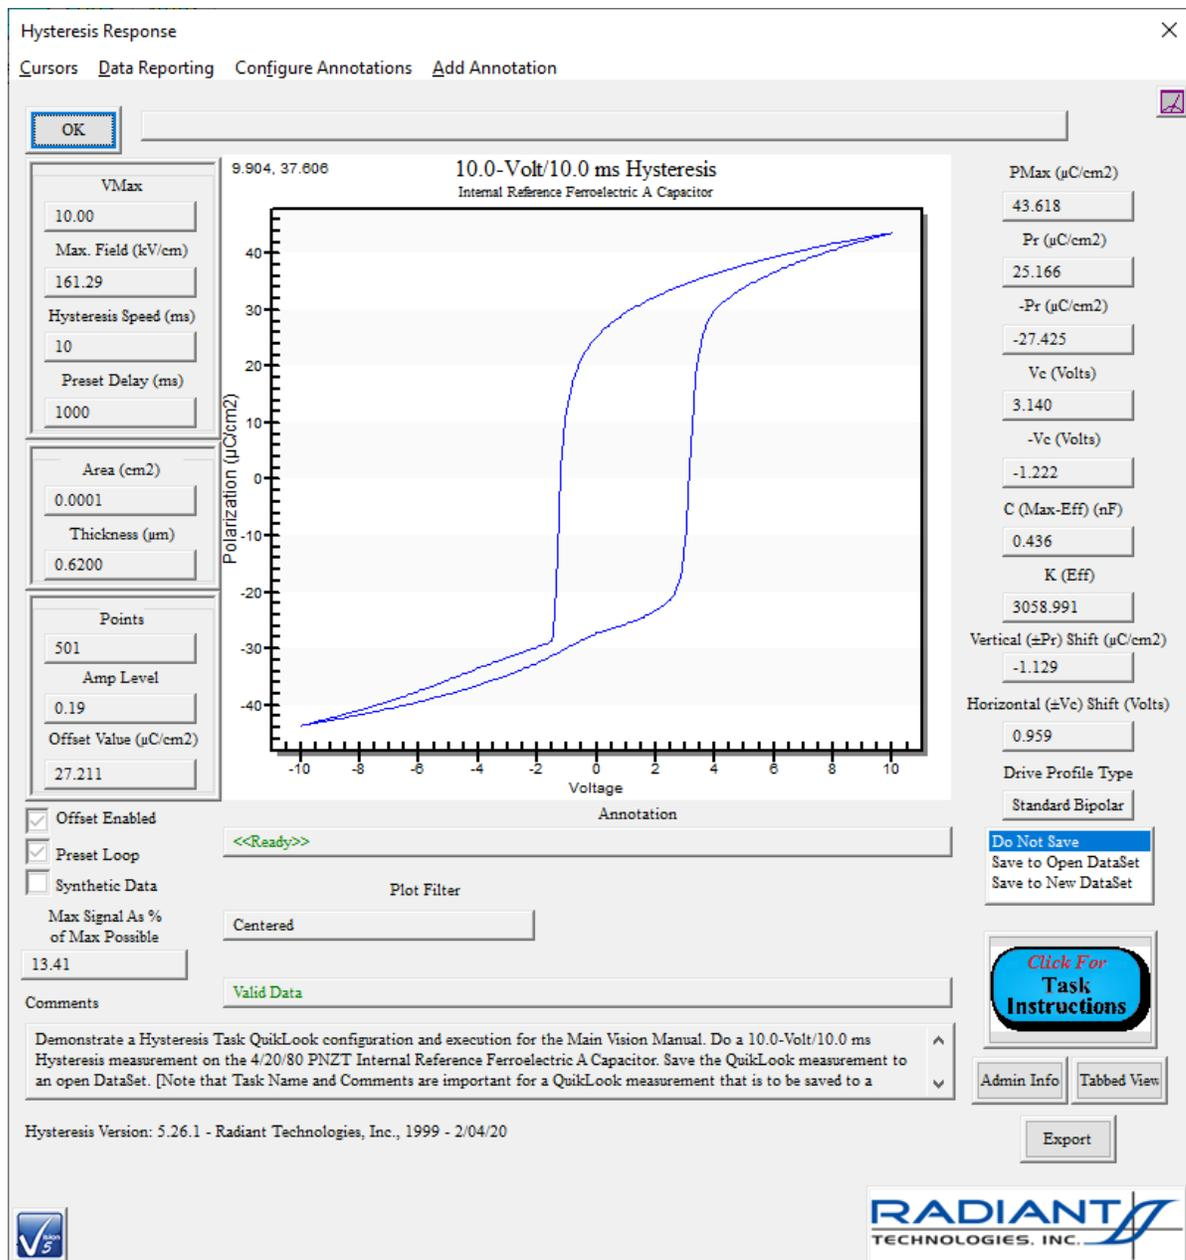

Figure 5 - Hysteresis QuikLook Results.
Step 6: Data can be exported to targets outside Vision from the dialog in **Figure 5**. Click the *Export* button to begin. See the Step-by-Step topics under "Exporting" for detailed instructions.